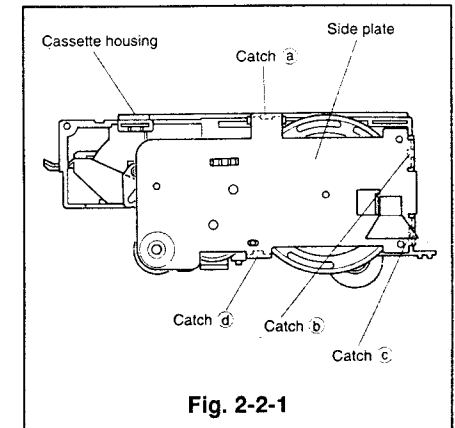
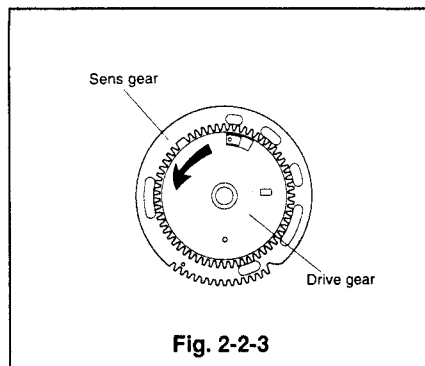
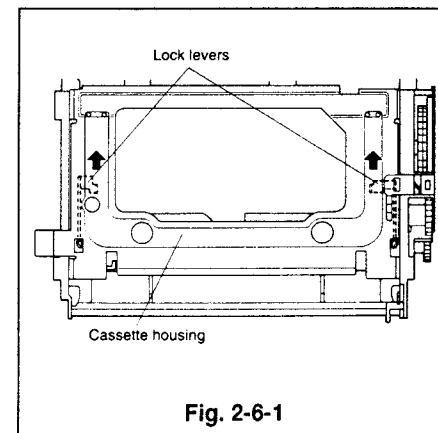
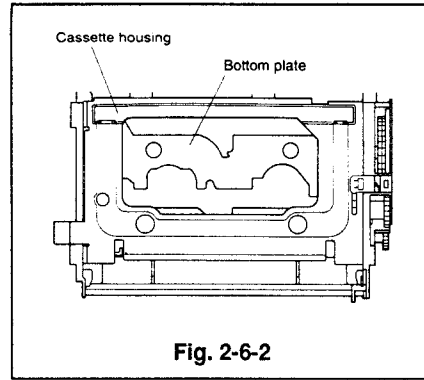

Fig. 2-2-1
Fig. 2-2-3
Fig. 2-6-1
Fig. 2-6-2
- ① Remove the cassette housing. (Refer to Para. 2-1 for the removal method.)
- ② Unfasten the four catches (a, b, c and d) as shown in Fig. 2-2-1 and remove the side plate.
- ③ Remove the sens gear.
- ④ Pull the lock levers on both the supply and takeup sides, shown in Fig. 2-6-1, in the direction shown by the arrow to shift the bottom plate to the position shown in Fig. 2-6-2.
- ⑤ Remove the takeup arm.
- ⑥ To remove the drive gear from the sens gear, turn and pull the drive gear in the direction shown by the arrow shown in Fig. 2-2-3.
- ⑦ Install the takeup arm so that the shaft from the bottom plate enters between the takeup arm and takeup spring, after the bottom plate is in the position shown in Fig. 2-6-2.
- 4 Pull the lock levers on both the supply and takeup side, shown in Fig. 2-6-1, in the direction shown by the arrow to shift the bottom plate to the position shown in Fig. 2-6-2.